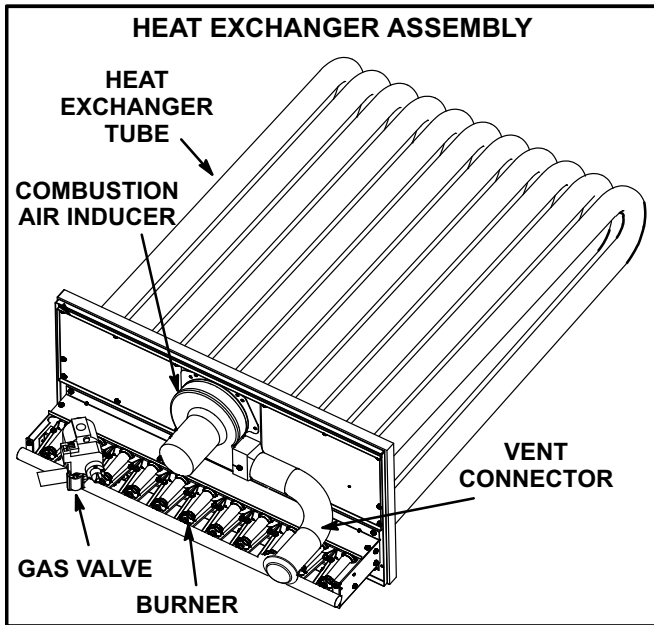

FIGURE 29
- 3- Remove and retain screws securing combustion air inducer to flue box. Remove vent connector. See figure 29.